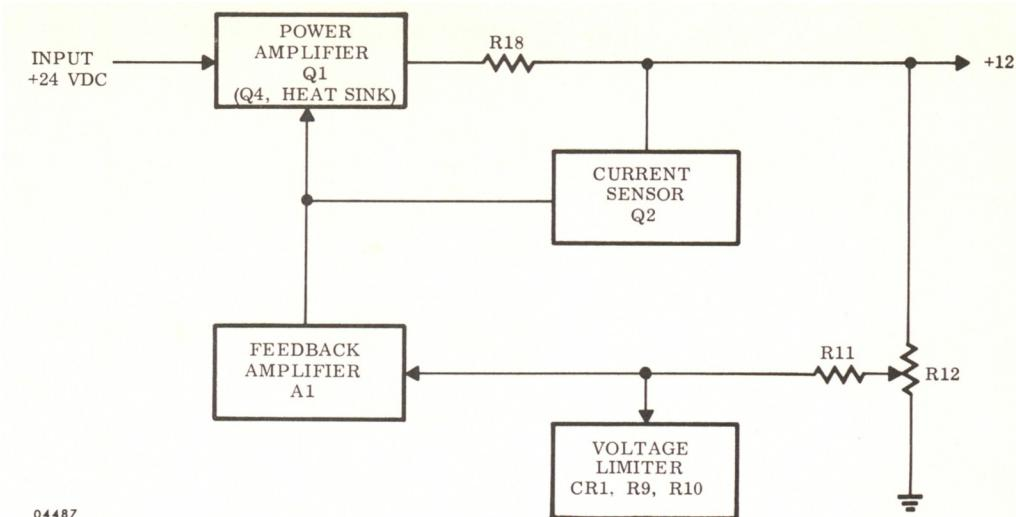

Figure 4.5-3. +12 VDC and +10 VDC Power Supply Regulators, Block Diagram
4.5-7 The +12 vdc and +10 vdc power supply regulators, shown in Figure 4.5-3, are two regulator assemblies mounted on one printed circuit card. Although the assemblies are identical, the reference designations are different; therefore, only the +12 vdc portion will be referred to.